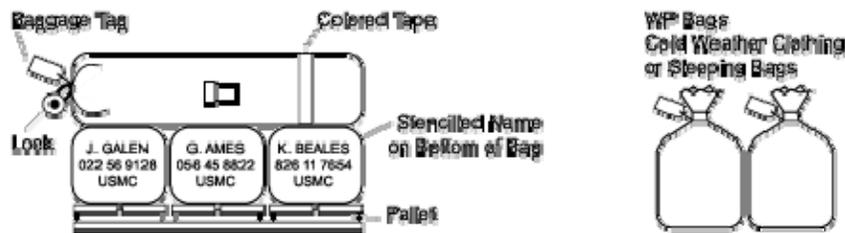

Figure 5-3. Seabags marked with company color codes and Marines' names.
- d. Movement of seabags or equipment. *See Figure 5-3.* Seabags and equipment are marked as per SOP so they can be moved by HHQ. *See Chapter 1 – Unit Identification SOP.*